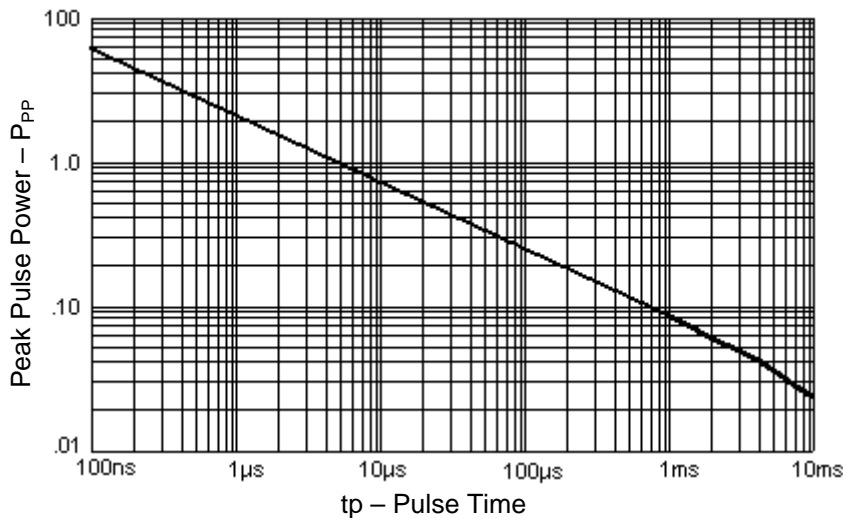

FIGURE 1
- 500 Watts Peak Pulse Power/Position @ 8x20 μ s (see figure 1 and 2)